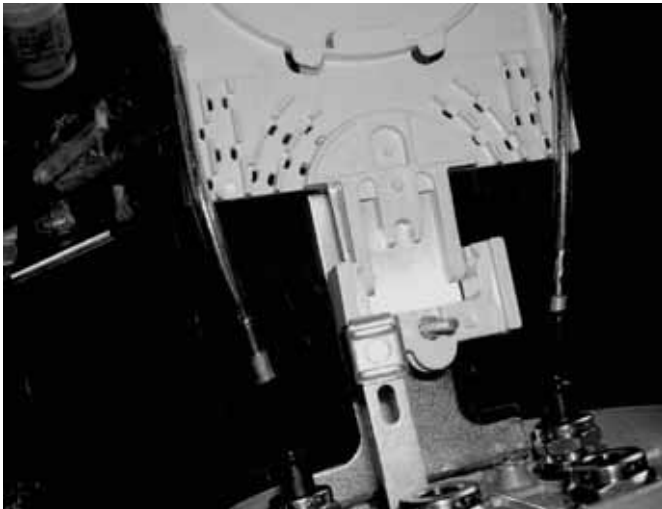

Figure: 9
- Using a buffer tube cutter carefully cut the fibre tubes to expose the fibres. Cut the transportation tube to the correct length; feed the fibres through the transportation tube and secure to fan – out tray using the cable ties provided. (See Fig 9)